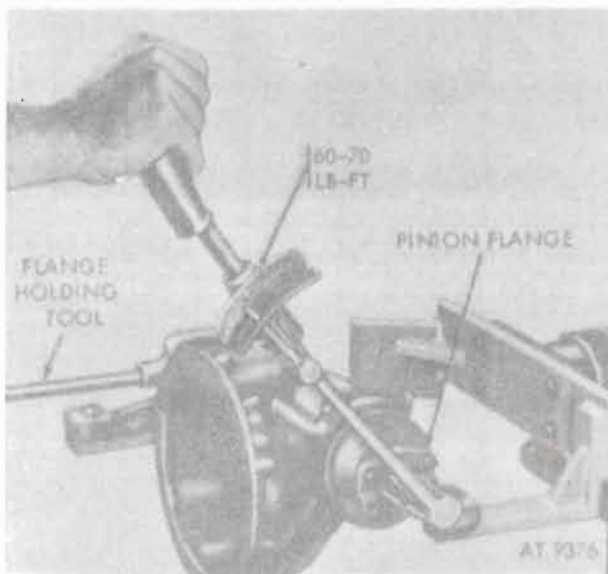

Figure 12-63. Torquing pinion flange nut.
i. Install pinion flange and nut and torque nut to 60-70 lb.-ft. (fig. 12-63).